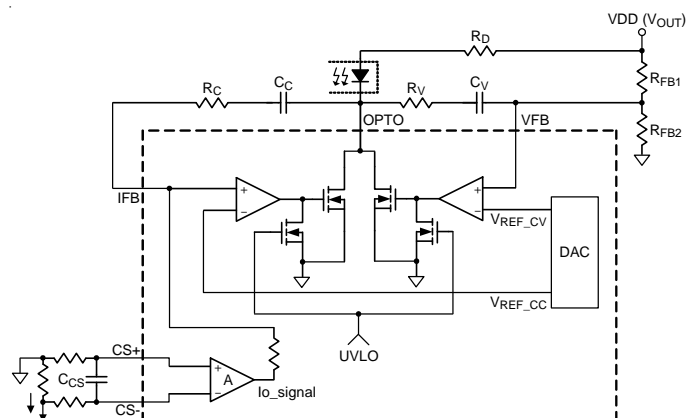

Figure 6. CC and CV Loops and Current-Sense Amplifier
As shown in Figure 6, the RT7207A incorporates 2 error amplifiers (EA) inside to regulate the output voltage and current, respectively. The output voltage is determined as :